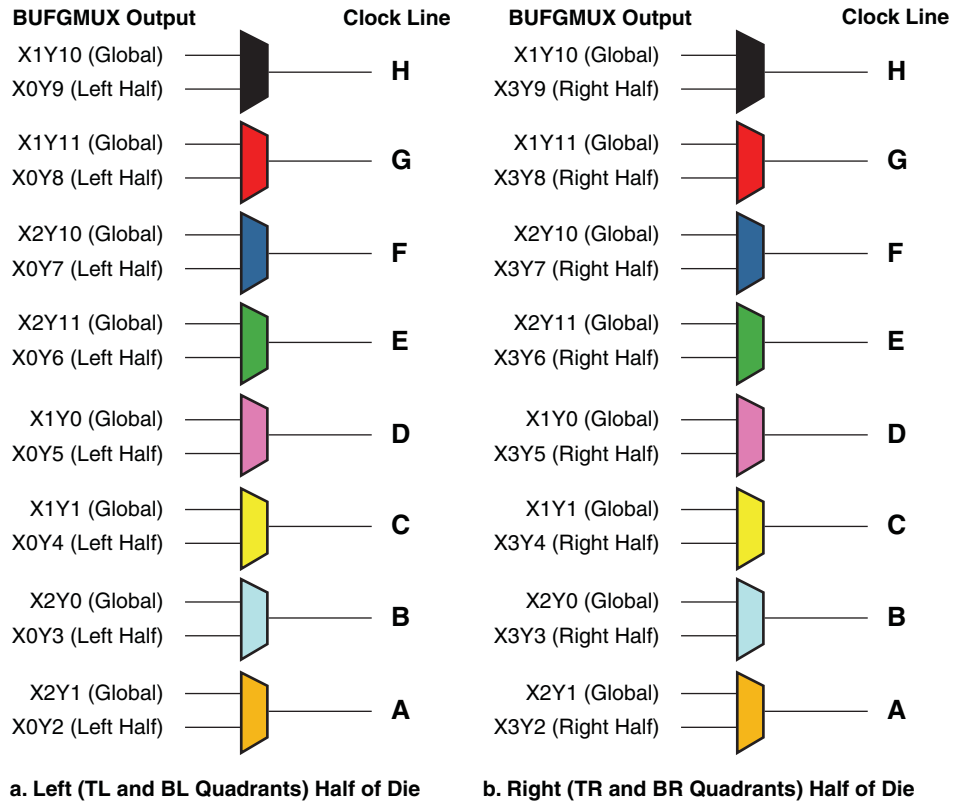

Figure 47: Clock Sources for the Eight Clock Lines within a Clock Quadrant
2. See Figure 45 for specific BUFGMUX locations, and Figure 47 for information on how BUFGMUX elements drive onto a specific clock line within a quadrant.
The clock routing within the FPGA is quadrant-based, as shown in Figure 45. Each clock quadrant supports eight total clock signals, labeled 'A' through 'H' in Table 41 and Figure 47. The clock source for an individual clock line originates either from a global BUFGMUX element along the top and bottom edges or from a BUFGMUX element along the associated edge, as shown in Figure 47. The clock lines feed the synchronous resource elements (CLBs, IOBs, block RAM, multipliers, and DCMs) within the quadrant.
Each of the eight clock signals in a clock quadrant derives either from a global clock signal or a half clock signal. In other words, there are up to 24 total potential clock inputs to the FPGA, eight of which can connect to clocked elements in a single clock quadrant. Figure 47 shows how the clock lines in each quadrant are selected from associated BUFGMUX sources. For example, if quadrant clock ‘A’ in the bottom left (BL) quadrant originates from BUFGMUX_X2Y1, then the clock signal from BUFGMUX_X0Y2 is unavailable